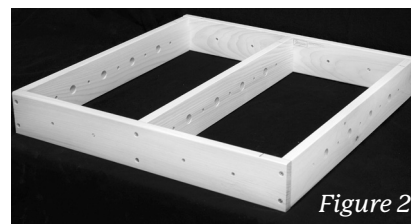

Figure 2
Step 2 - Repeat for each Cross Brace until your section is complete. (See Fig. 2) The template diagrams on the other side of this sheet will show you how many pieces are used in each section.